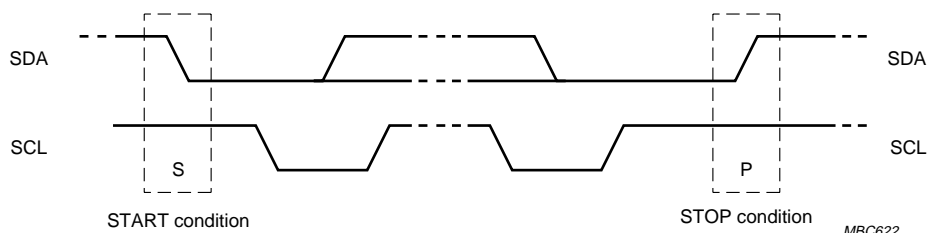

Fig.5 START and STOP conditions.
Within the procedure of the I²C-bus, unique situations arise which are defined as START (S) and STOP (P) conditions (see Fig.5).